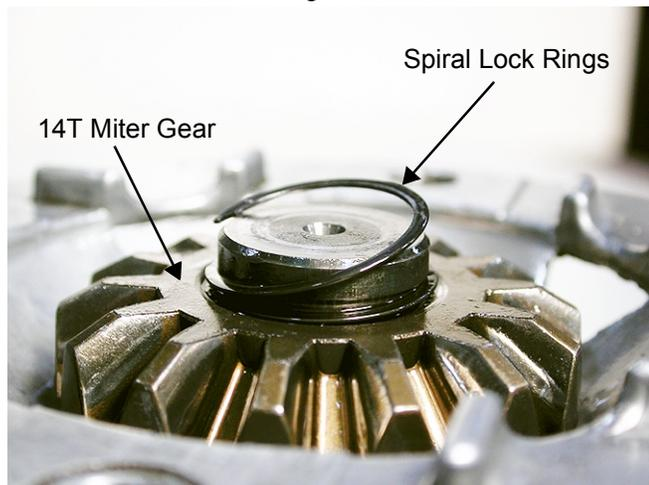

Figure 25
30. Remove both spiral lock snap rings securing the 14T miter gear to the right axle using a small screwdriver. See Figure 25.